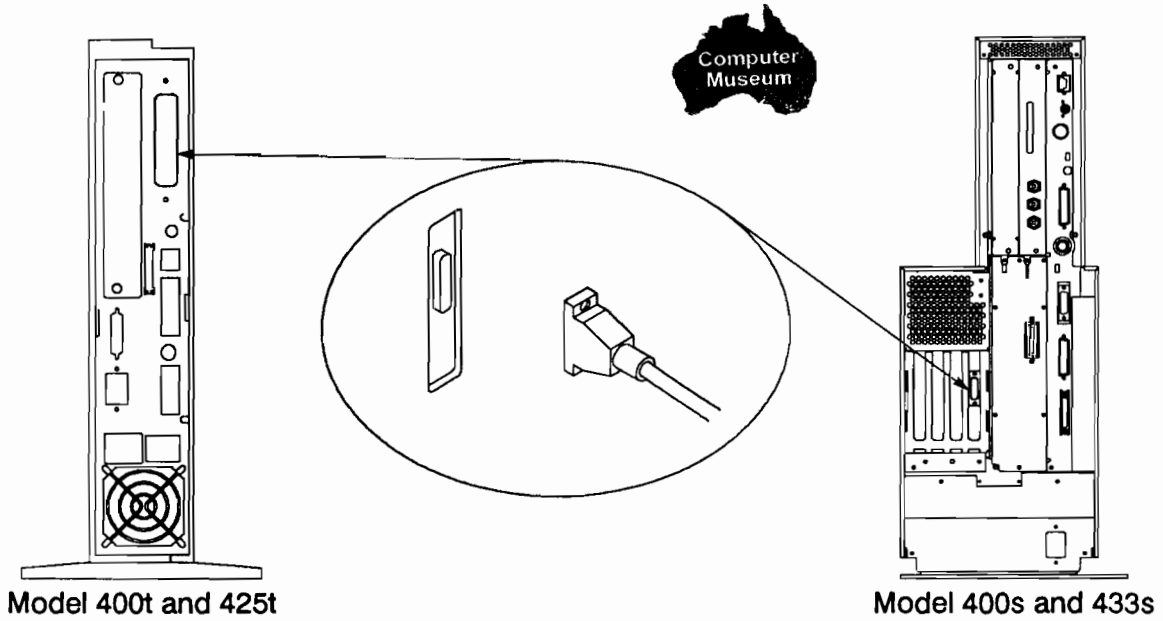

Figure 8-10. Connecting the Network Cable to the System
6. Connect the network cable to the system unit as shown in Figure 8-10. Tighten the screws with a 3-mm (1/8-inch), flat-blade screwdriver.